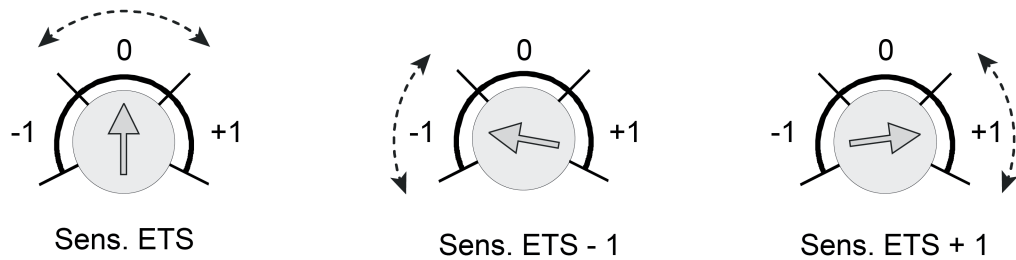

Figure 21: Example of the adjustment ranges of the sensitivity adjuster on the device
on the device after commissioning. For this purpose, the device has the adjuster (9) that makes it possible to change the configured sensitivity setting of all PIR sectors. The sensitivity can be reduced or increased by a maximum of one level using the adjuster (figure 21).